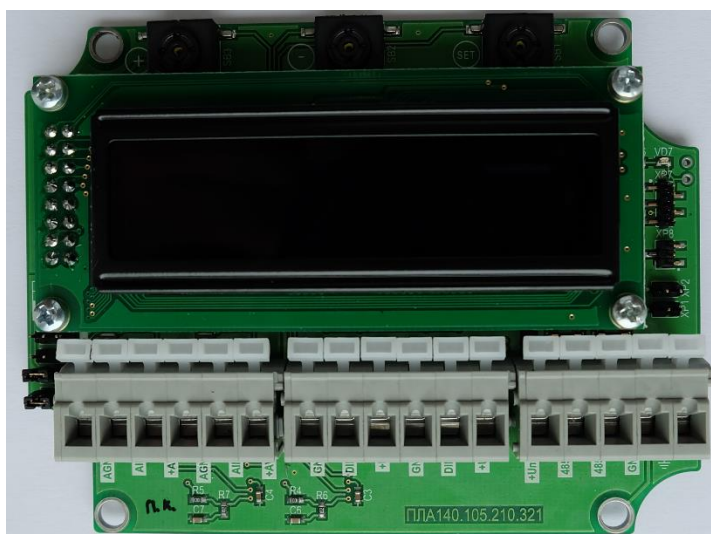

Figure.1 Printed board of signal transducer
3.1.3. Signal transducer enclosure has removable cover with screws, where electronic printed board is mounted underneath fig1
3.2.1. Structure scheme of signal transducer is showed on fig.1.